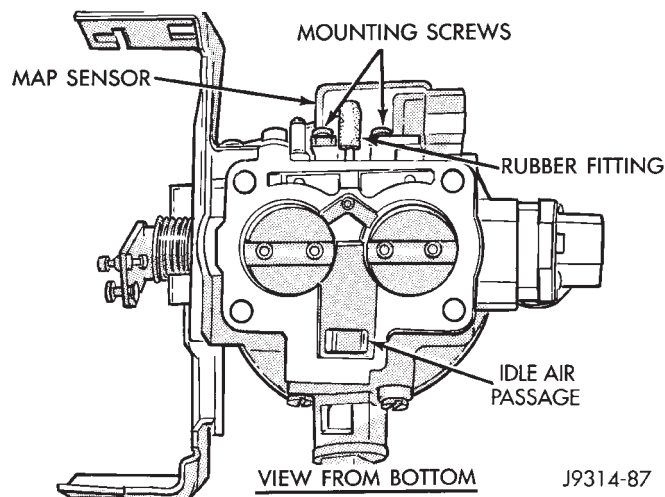

Fig. 71 MAP Sensor L-Shaped Rubber Fitting—5.2L Engine
The MAP sensor is located on the front of the throttle body. An L-shaped rubber fitting is used to connect the MAP sensor to throttle body (Fig. 71).
- (1) Remove air duct at throttle body.
- (2) Remove throttle body. Refer to Throttle Body removal in this section.
- (3) Remove two MAP sensor mounting bolts (screws) (Fig. 71).
- (4) While removing MAP sensor, slide the vacuum rubber L-shaped fitting (Fig. 71) from the throttle body.
- (5) Remove rubber L-shaped fitting from MAP sensor.